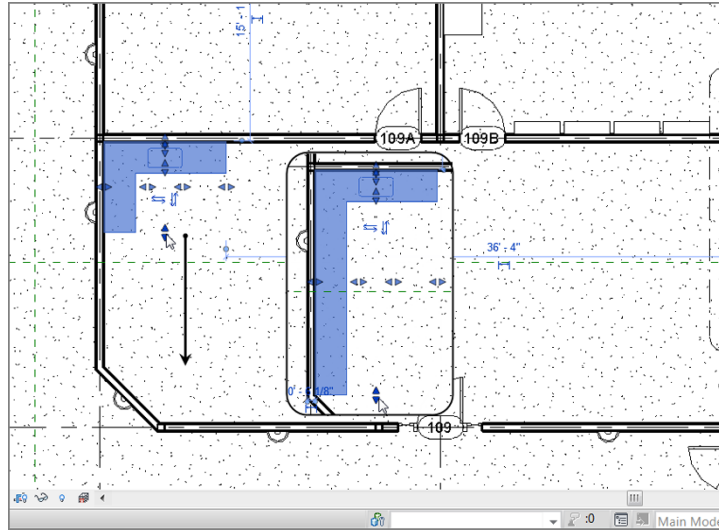

FIGURE 9.57: Lengthening the counter leg to meet the corner of the wall
9. Select the stretch arrows, and stretch the leg of the counter to the end of the wall, as shown in Figure 9.57.